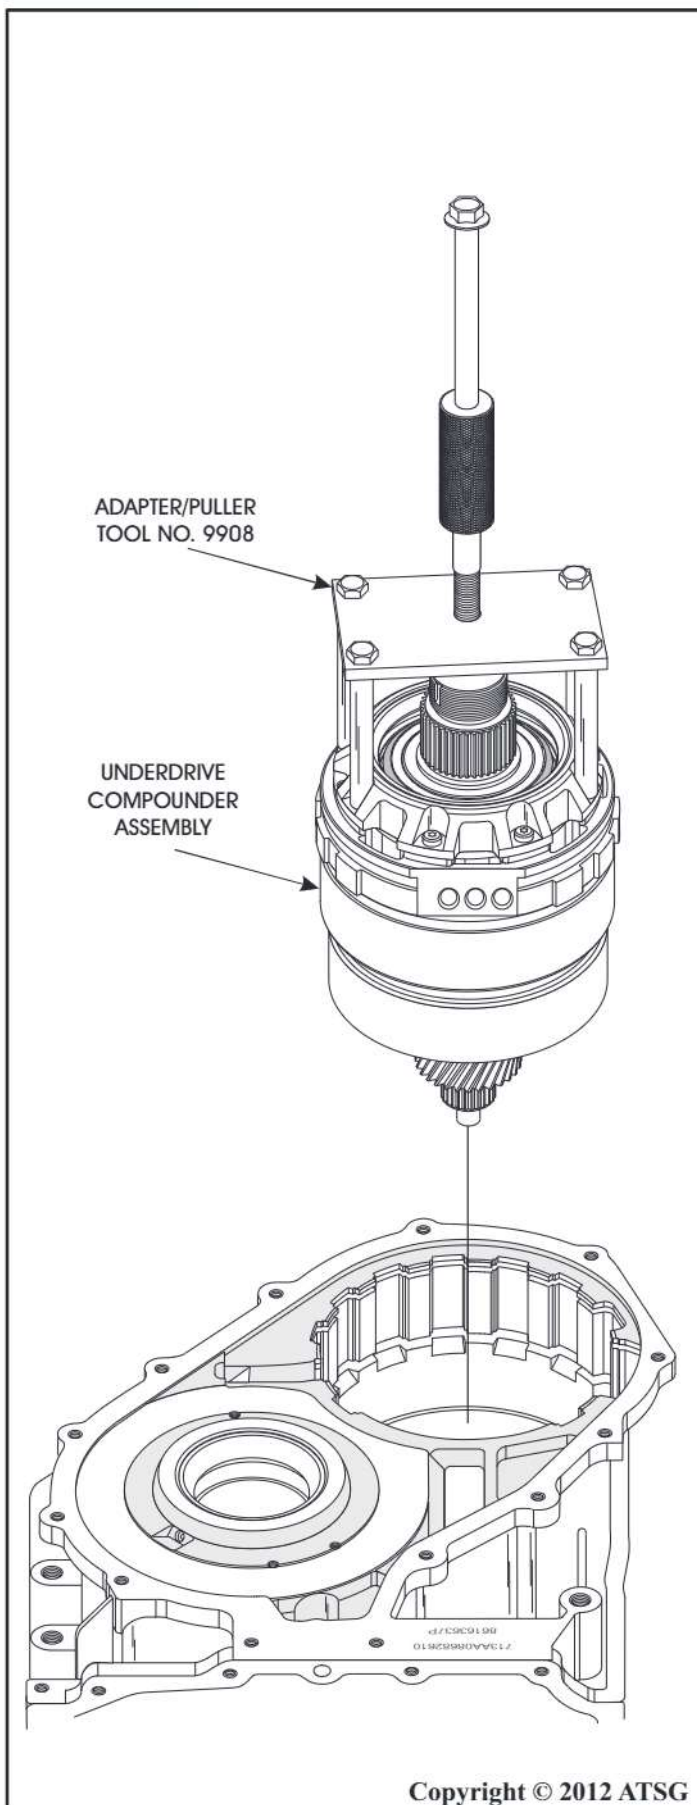

Figure 85
83. Remove the compounder assembly from the transaxle case by lifting straight up, as shown in Figure 85, and set aside for component rebuild.